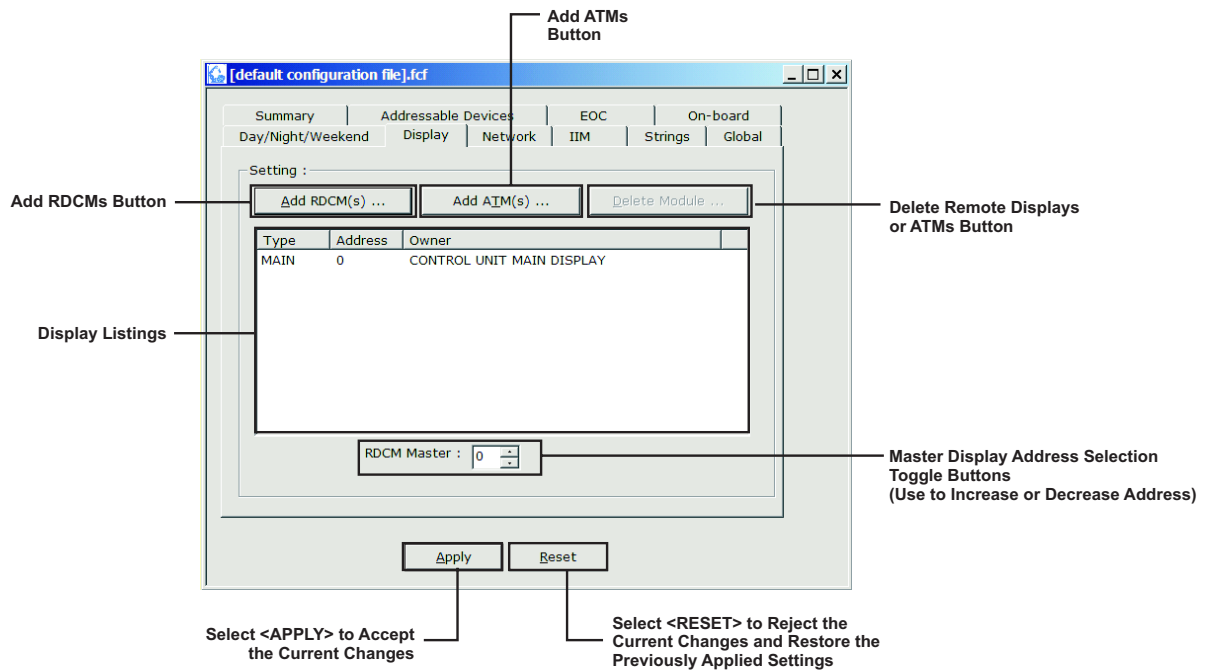

Figure 2-34. Peripheral-Devices Main Configuration Screen
Select the "Display" Tab; Figure 2-34 displays.
1. Highlight the device in the listings area of the Display Screen (Figure 2-34).